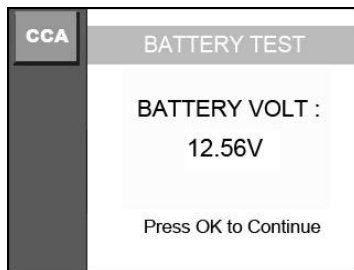

Figure 9.1
4. Use the **UP/ DOWN** scroll button to select **BAT TEST** from main menu, the screen will show as below (Figure 9.1).